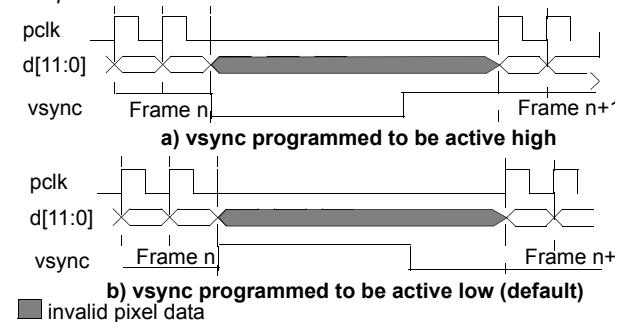

Figure 42. vsync in pulse mode
- Pulse mode should be used when the pixel clock, *pclk*, is programmed to operate in *data ready mode*. In pulse mode the *vsync* output pin will produce a pulse at the end of each frame. The width of the pulse will be a minimum of four *hclk* cycles and its polarity can be programmed as shown in Figure 42. The *vsync* level is always synchronized to the active edge of *pclk*.